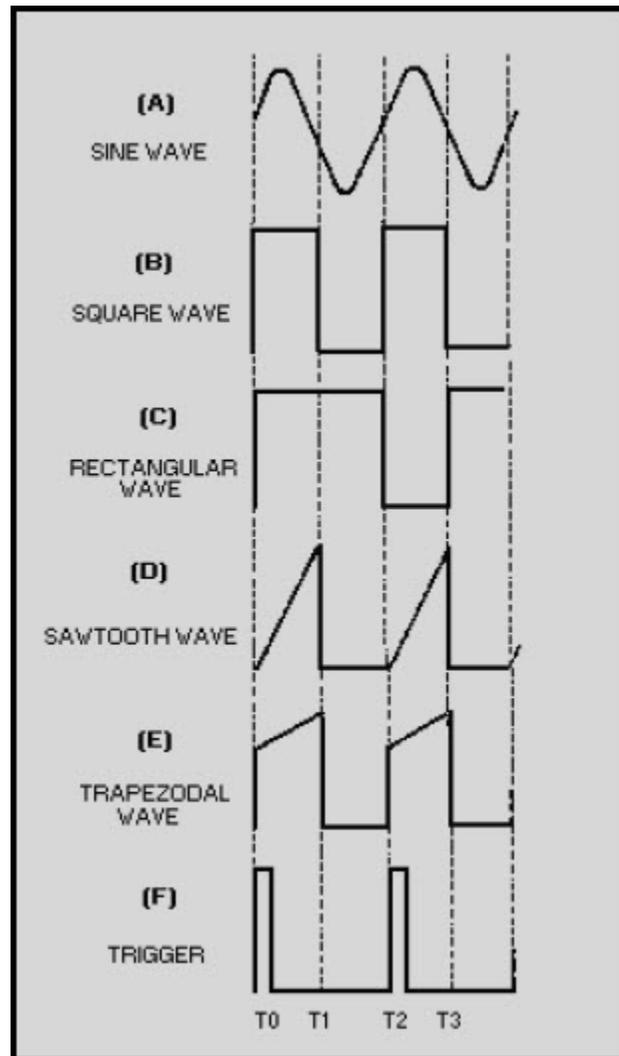
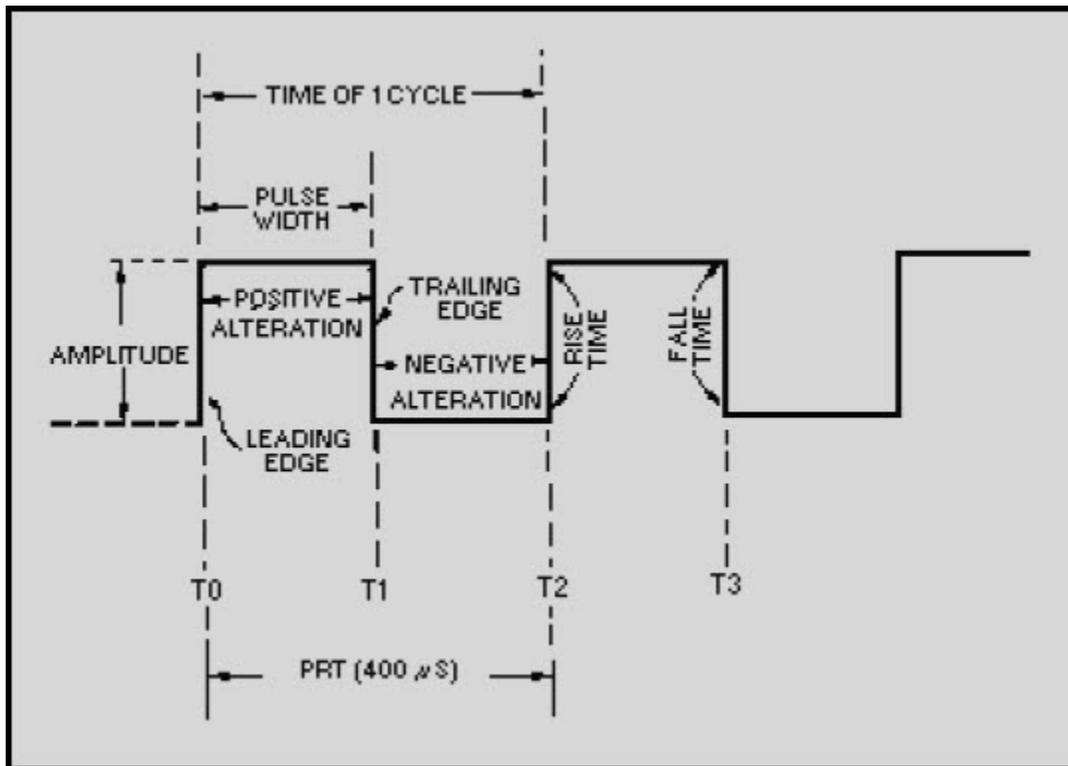

Figure 3-1 Periodic waveforms
Figure 3-2 Square wave
Each completed pattern of a periodic waveform is called a **CYCLE**, as shown by the **SINE WAVE** in figure 3-1, view (A). Sine waves were presented in NEETS, Module 2, Alternating Current and Transformers, Chapter 1.
A SQUARE WAVE is shown in figure 3-1, view (B). As shown, it has two alternations of equal duration and a square presentation for each complete cycle. Figure 3-2 shows a breakdown of the square wave and is the figure you should view throughout the square wave discussion. The amplitude is measured vertically. The time for a complete cycle is measured between corresponding points on the wave (T0 to T2, or T1 to T3).
One alternation is called a PULSE. The time for one complete cycle is called the PULSE REPETITION TIME (prt). The number of times in 1 second that the cycle repeats itself is called the PULSE-REPETITION FREQUENCY (prf) or PULSE-REPETITION RATE (pr). If each alternation in figure 3-2 is 200 microseconds (μ s), the prt will be 400 microseconds, and the prf will be 2,500 hertz. The following examples are provided to illustrate the mathematical relationship between prf and prt:
A rectangular wave is similar to the square wave. The difference is that in the rectangular waveform, the two alternations of the waveform are of unequal time duration. Figure 3-1, view (C), shows that the negative alternation (pulse) is shorter (in time) than the positive alternation. The negative alternation could be represented as the longer of the two alternations. Either way, the appearance is that of a rectangle.
The SAWTOOTH waveform is shown in figure 3-1, view (D). A sawtooth wave resembles the teeth of a saw blade. There is a rapid vertical rise of voltage from T0 to T1, which is linear (straight). At T1 this voltage abruptly falls (essentially no time used) to its previous static value. The voltage remains at this value until T2 when it again has a linear rise. You can see this action in an oscilloscope where there are two voltage input locations, vertical and horizontal. If you apply a linear voltage to the vertical input, the electron beam will be forced to move in a vertical direction on the crt. A linear voltage applied to the horizontal input will cause the electron beam to move horizontally across the crt. The application of two linear voltages, one to the vertical input and one to the horizontal input at the same time, will cause the beam to move in both a vertical and horizontal (diagonal) direction at the same time. This then is how a sawtooth wave is made to appear on an oscilloscope. You should refer to NEETS, Module 6, Electronic Emission, Tubes, and Power Supplies, Chapter 2, for a review of oscilloscopes.
A TRAPEZOIDAL wave looks like a sawtooth wave on top of a square or rectangular wave, as shown in figure 3-1, view (E). The leading edge of a trapezoidal wave is called the JUMP voltage. The next portion of the wave is the linear rise or SLOPE. The trailing edge is called the FALL or DECAY. A trapezoidal wave is used to furnish deflection current in the electromagnetic cathode ray tube and is found in television and radar display systems. Electromagnetic cathode ray tubes use coils for the deflection system, and a linear rise in current is required for an accurate horizontal display. The square or rectangular wave portion provides the jump voltage for a linear rise in current through the resistance of the coil. This will be explained further in a discussion of the trapezoidal sweep generator.
A trigger is a very narrow pulse, as shown in figure 3-1, view (F). Trigger pulses are normally used to turn other circuits on or off.